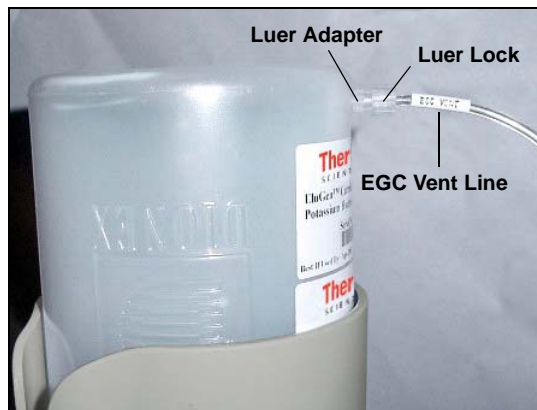

Figure 65. Installing the Dionex EluGen Cartridge Vent Line
5. Twist the luer lock and Dionex EluGen cartridge vent line into the luer adapter (see Figure 65).